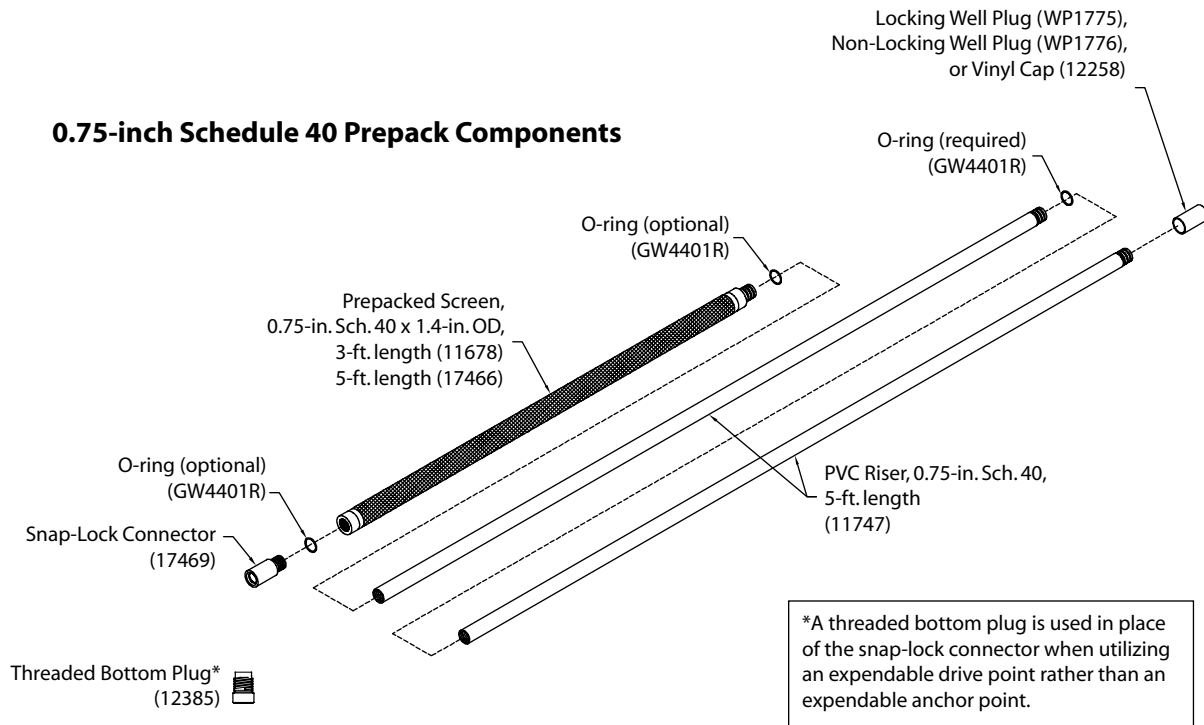

FIGURE 4.3:
3. Referring to Figure 4.3, place an O-ring in the groove of an Expendable Anchor Point (GW2040) or Drive Point (AT2015 or 19442). Insert the point into the unthreaded end of a 2.125-inch or 2.25-inch Expendable Point Holder.
10. With the probe rods and anchor point driven to the proper depth, the next step is to deploy the screen(s) and riser pipe. Thread together 1.4-inch OD prepack sections to achieve the desired screen interval. As shown in Figure 4.3, 1.4-inch OD prepacks are available with 0.5-inch Schedule 80 PVC or 0.75-inch Schedule 40 PVC components and in lengths of 3 or 5 feet (0.9 or 1.5 m). O-rings (GW430R) can be installed between the screen sections if desired.
11. Thread a Snap-lock Connector (0.5-inch GW2030 or 0.75-inch 17469) or a bottom plug (0.5-inch GW2056 or 0.75-inch 12385) into the female end of the assembled prepacks (Fig.4.3). An O-ring can be placed on the male threads of the connector if desired.
14. Install a PVC top cap, non-locking, or locking well plug on the top riser (Figure 4.3). If using the vinyl cap, secure the cap with two wraps of duct tape or electrical tape.